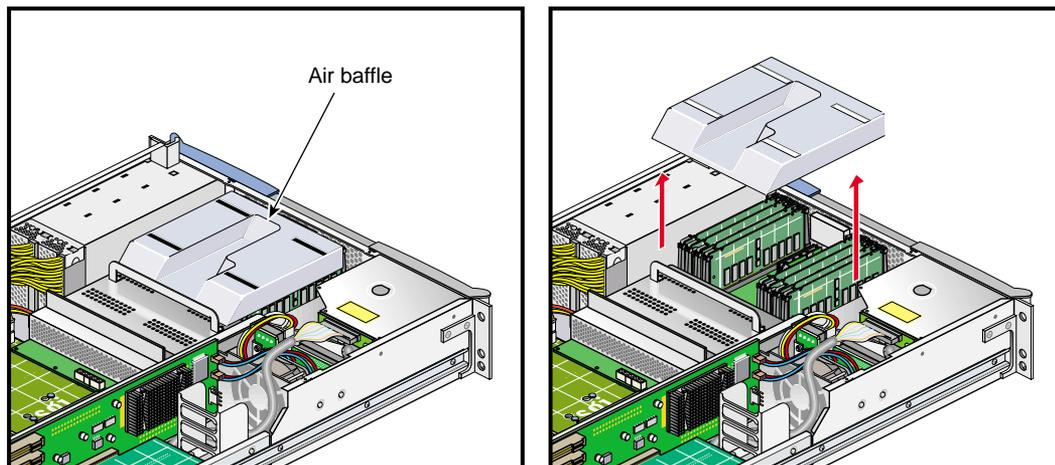

Figure 7-20 Removing the Plastic Air Baffle
7. Remove the plastic air baffle covering the DIMMs, as shown in Figure 7-20.